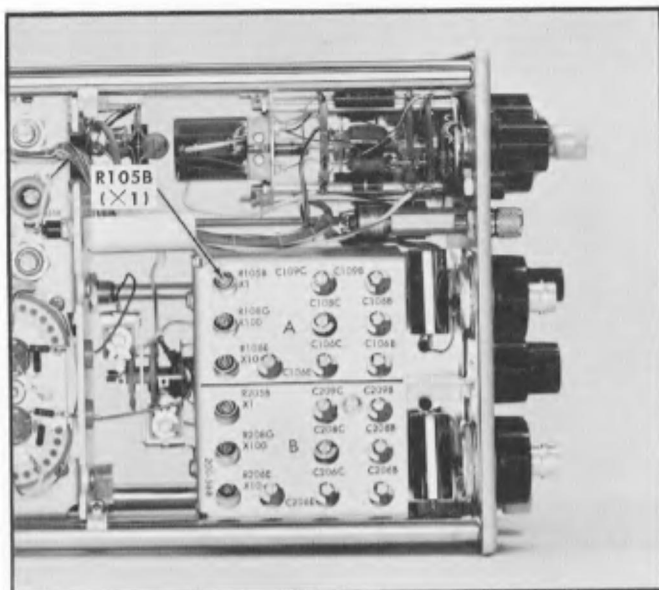

Fig. 5-37. Location of step 28g adjustment.
g. Adjust R105B (see Fig. 5-37) to obtain a null reading on the non-loading voltmeter.
**29. Adjust R206E (Input B 10X Attenuator) ①**